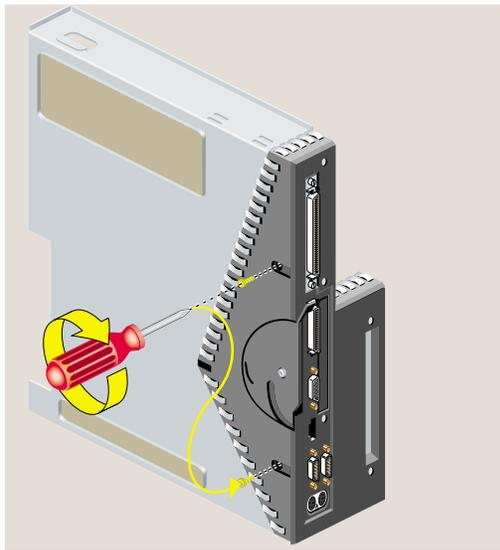

Figure 14 Replacing Two Screws on the Underside
19. Align the screw holes on the faceplate with the screw holes on the system module. Use a Phillips screwdriver to insert and tighten two screws on the underside in the locations shown (Figure 14).